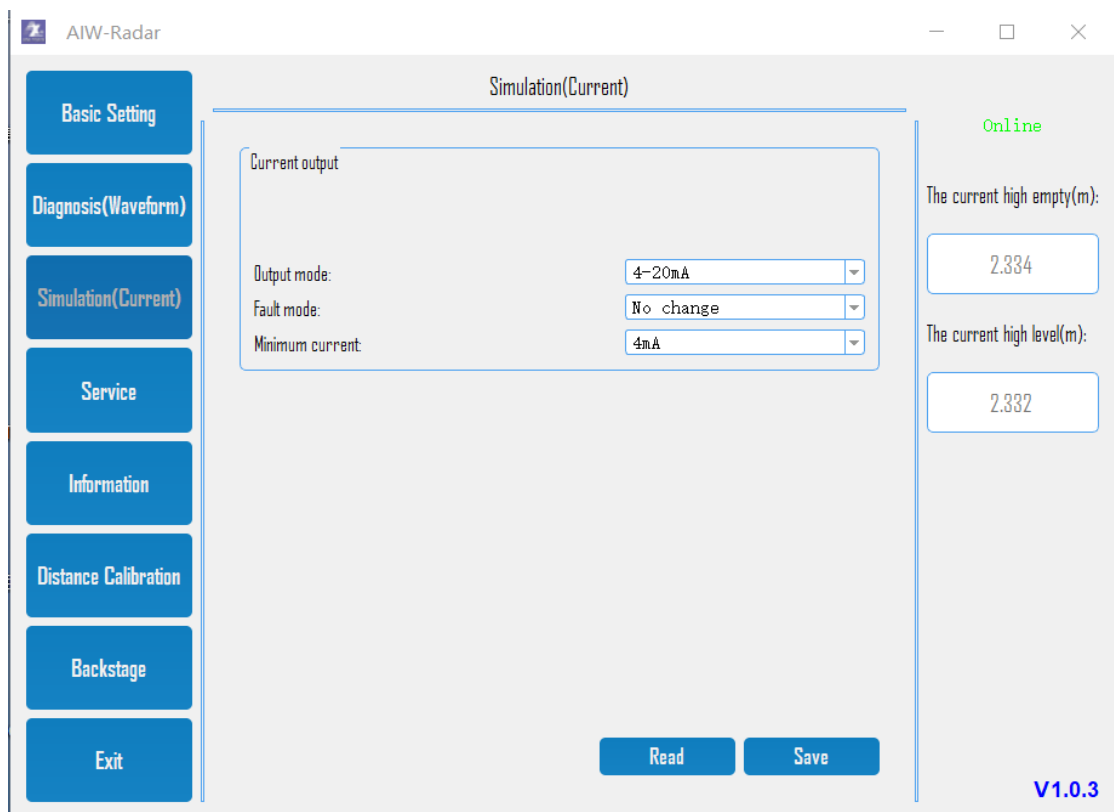

Figure 10.
11. When the device supports current output, click the "simulation (current)" button on the left side of the main interface, and the main interface will display the relevant parameters of the device current output. It can be modified according to actual needs. As shown in Figure 10.